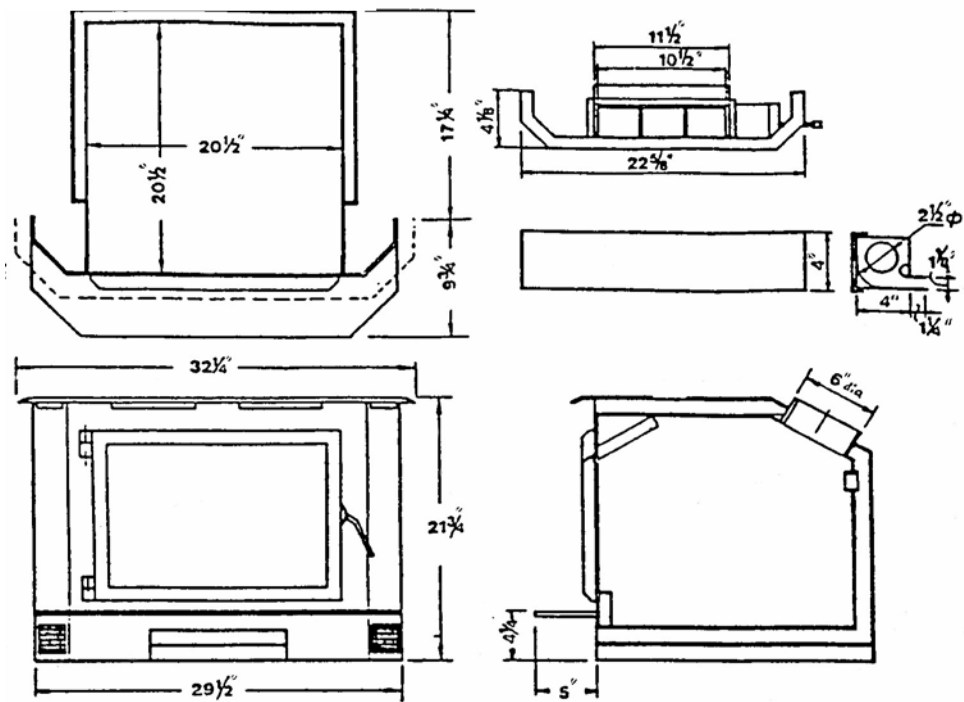

Fig. 1
5. Your fireplace opening requires the following minimum sizes (Fig. 1).